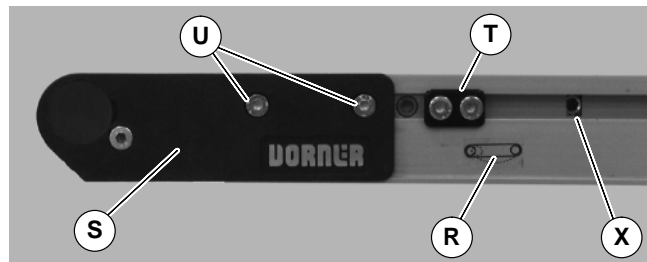
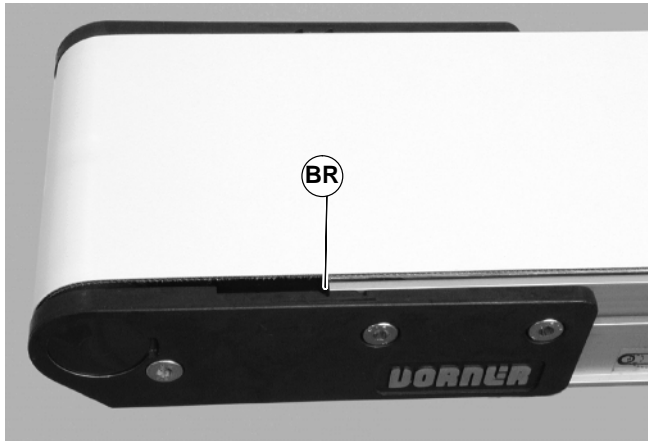

Figure 37
Figure 38
1. On tension end of the conveyor, identified with a  label (R of Figure 37), adjust head plate assembly (S): On both sides of conveyor, loosen fastening screws (U) and rotate pinion gear (X) to adjust head plate assembly.
2. Adjust head plate assembly so end of conveyor frame aligns with first tensioning mark (BR of Figure 38). Tighten fastening screws (U of Figure 37) on both sides of conveyor to 60 in-lb (7 Nm).
3. If equipped with cam tracking assemblies (T of Figure 37), reposition against head plates and adjust belt tracking. Refer to "Conveyor Belt Tracking", page 16.